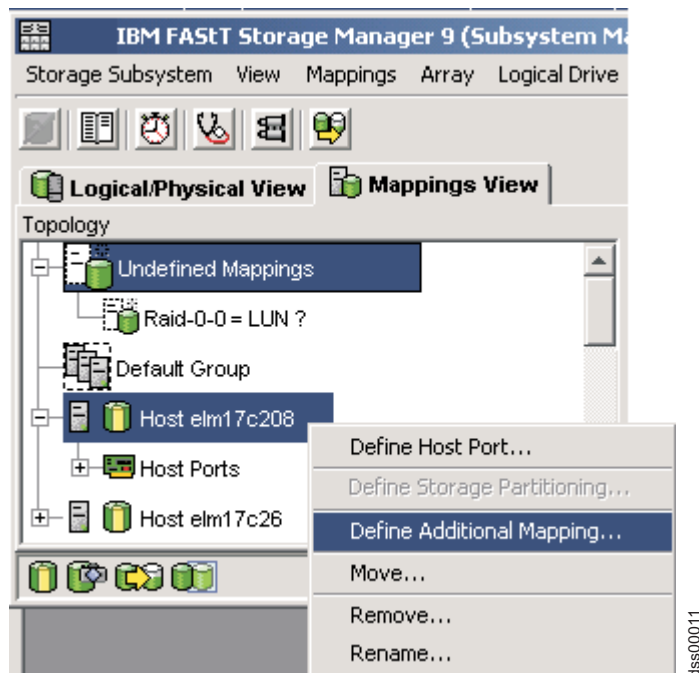

Figure 10. Define Additional Mapping
2. Right-click the host or host group to which you want to map the drive, and click **Define Additional Mapping**, as shown in Figure 10.